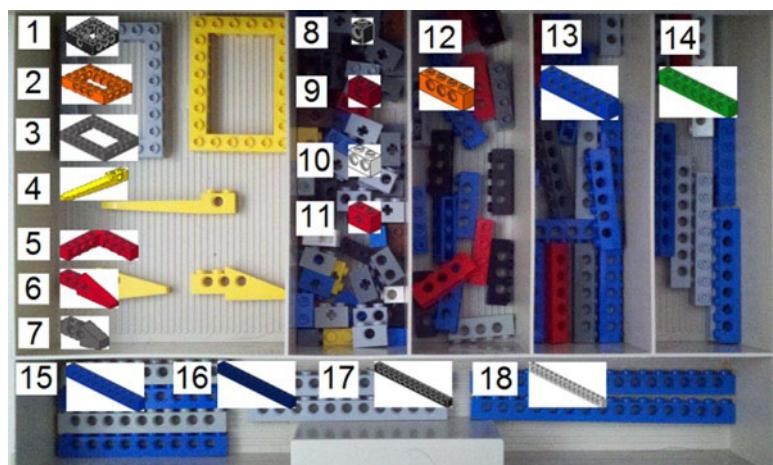

Figure 1-5. A method of storing LEGO Technic Brick in a tackle box drawer
- *Brick*: Any Technic shown in the Technic brick section in Figure 1-5, and some that I didn’t show, is here.
When LEGO introduced their “Expert Sets” in the late 1970s, they introduced a new kind of brick. These bricks have holes on the sides for Connector Pegs and Axles (see individual descriptions below). Sometime around 2000, LEGO Technic began to emphasize Beams rather than traditional studded pieces. Most LEGO Technic sets shun these Technic brick pieces now and generally are completely studless. In fact, I can honestly say that I only used a handful of LEGO Technic Bricks in the projects in my previous book. However, if you are a LEGO builder of any type, you could devote an entire drawer in your tackle box or toolbox for these bricks, by length. As you can see, the amount of round holes in the side is usually equal to the amount of studs on top, minus one (with some exceptions). Figure 1-5 shows how I have this arranged in my tackle box, and you can see that I have a large space devoted to Technic Bricks of unusual shapes. You will note that I don't have them separated by color, and not every type of piece has a place by itself. This is because I have very few of some pieces and a lot of another, and it is just easier to group similar pieces together.
Note The numbers in Figures 1-5 through 1-9, 1-12, 1-22, 1-28, 1-37, and 1-38 correspond to the numbers in the parts list that immediately follows the respective figures. I put the official LEGO ID number in parentheses in the list so you can find it on Pick a Brick or BrickLink, if the part is available for purchase.